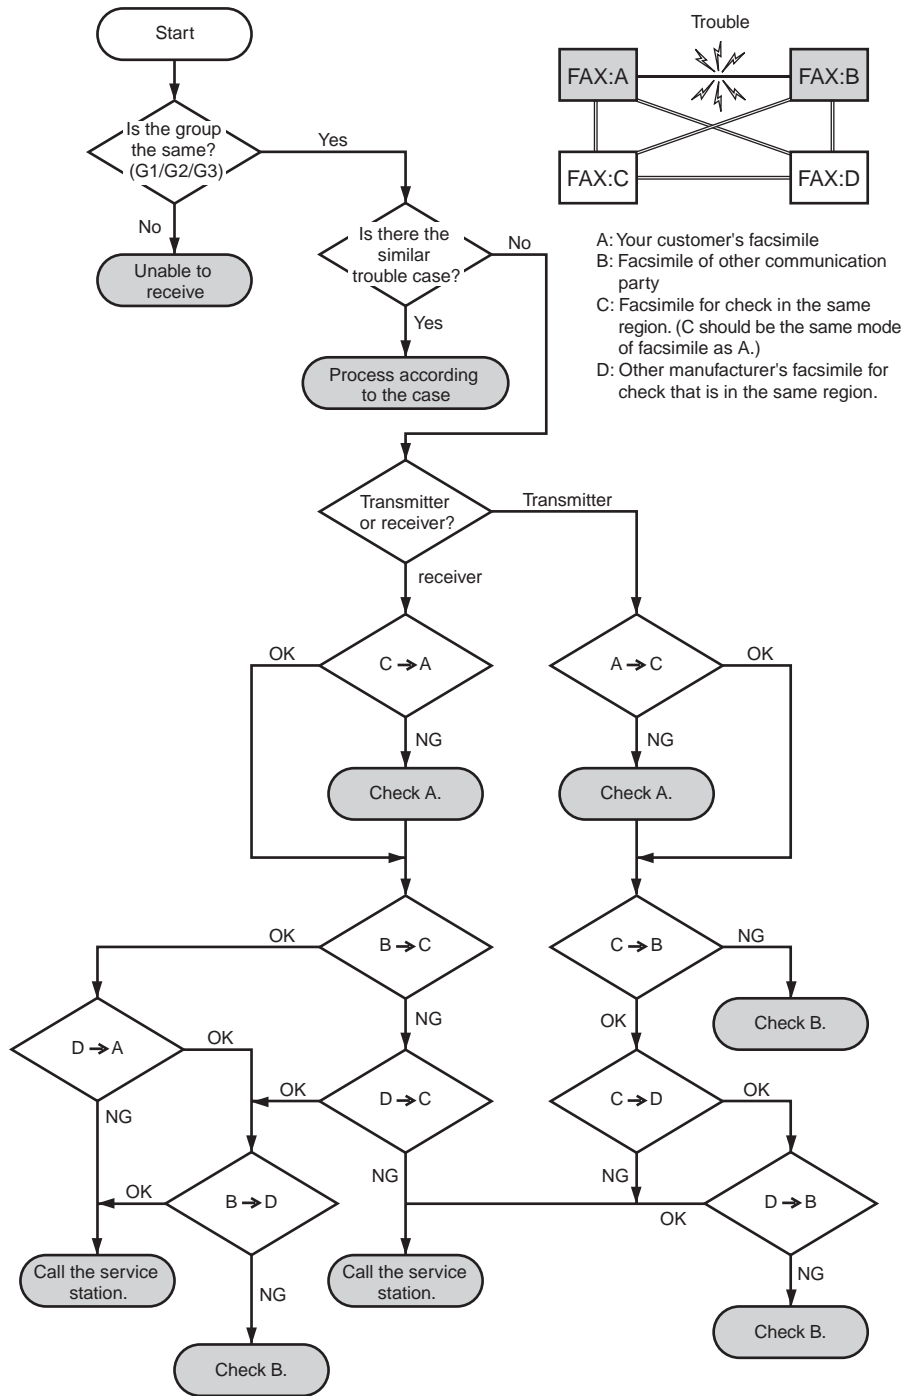

Figure 4-11 Flowchart for Processing Communication Troubles with other manufacturer's facsimile
If the other party's facsimile is that of another manufacturer and there is nothing wrong with your customer's machine, it is recommended that you ask your customer to contact the facsimile user of the other party, so that the other party's facsimile is checked by the dealer. "Call the service station" in the flowchart (Fig.4-11) means that problems may occur with regard to the communication compatibility of facsimile, consult the matter with the staff in charge at the service station. To quicken the resolving of the problem, report the information listed in (1) above.